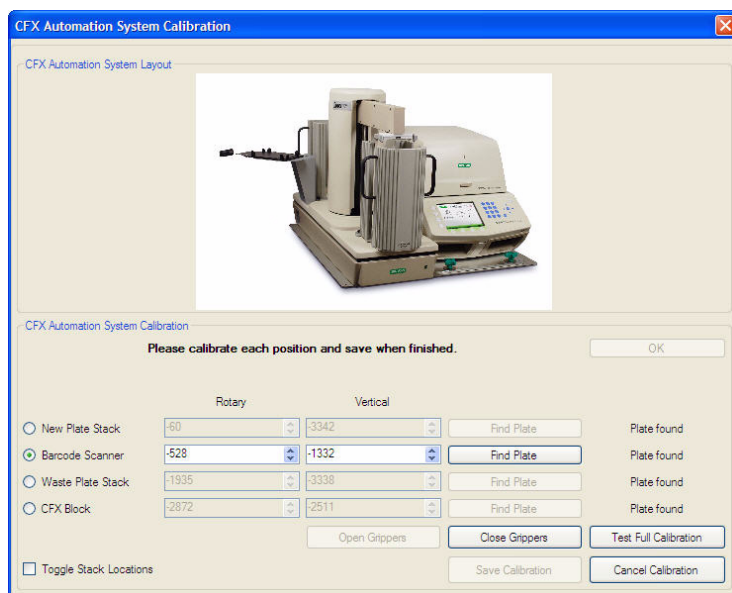

Figure 22. Calibrating the bar code scanner position.
- The arm then moves down until the plate sensor switch is activated by the lip of the PCR plate, and the vertical offset text box is recorded. A **Plate Found** message will display to the right of the **Find Plate** button (Figure 22).